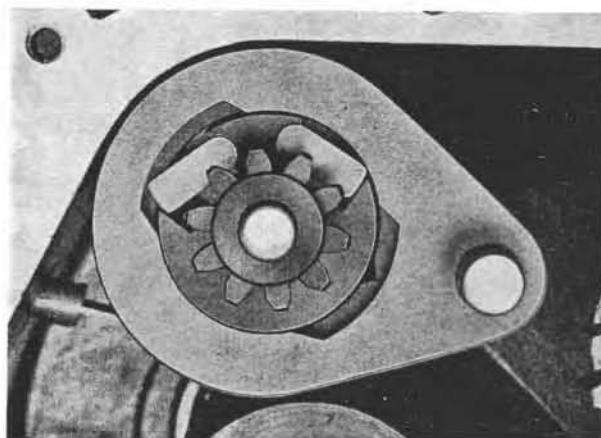

Fig. 80
- selector inner body, c/w plungers, pawls and springs (see Fig. 80).
- Roller bearing for mainshaft, using puller No. 12913100 (see 9 on Fig. 80).